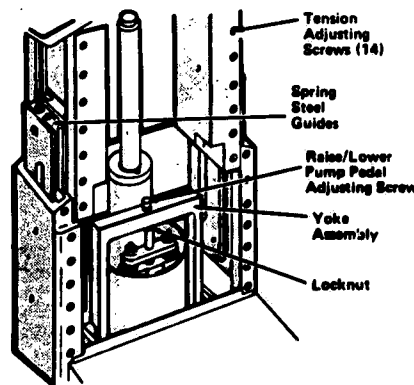

Figure 4-3. SUPERSTRUCTURE AND PUMP ASSEMBLY.
With the table at its maximum height and the Trendelenburg locking bar tight, check the tabletop for "play" from foot end to head end and vice versa. There should be none. If there is play, the pedestal tension screws must be adjusted. Proceed as follows (Figure 4-3):
g. While the shroud covers are removed, check the spring-steel guides (Figure 4-3) for lubricant. They should be coated lightly with either a Silicon grease or Molylube. (Normal lubrication is once a year.)
4. Refer to Figure 4-3 and loosen the locknut on the underside of the inverted U-shaped yoke assembly.